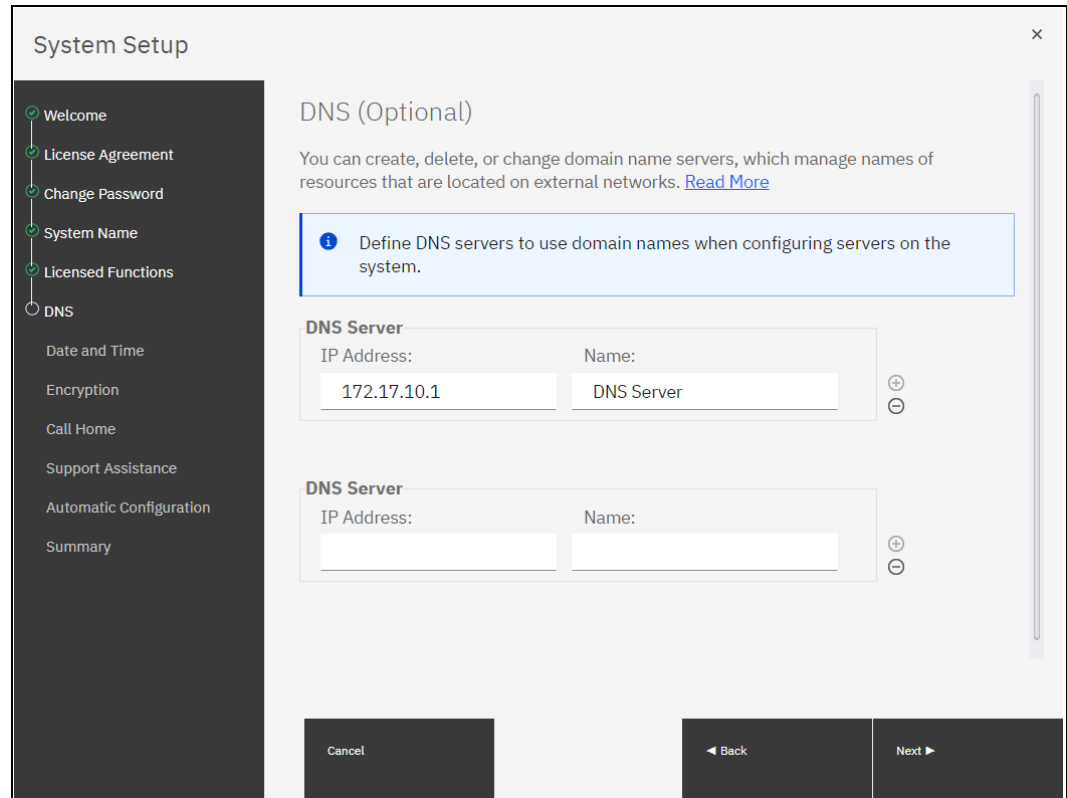

Figure 2-29 DNS Server setup
17. DNS can be configured on the system, as shown in Figure 2-29 on page 40. DNS helps the system to resolve the names of the computer resources that are in the external network if they are not indicated by an IP address.